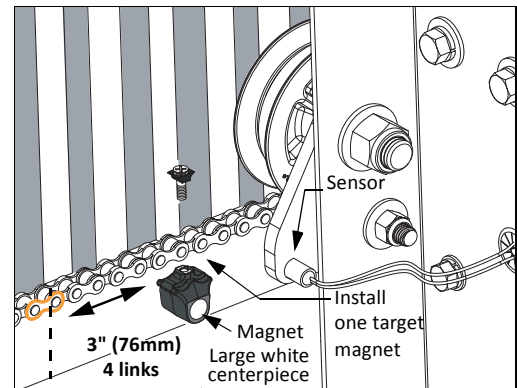

Figure 1-18.
5. Fasten the target magnet to the chain link as shown in Figure 1-18. Make sure the large white centerpiece is facing toward the operator. Insert the screw and tighten it securely.
If “ALERT 15 - NO TARGET” appears on the display after the target magnet has been installed and a full gate cycle completed (steps 6 & 7), it means that the target magnet has not been detected by the operator. Check chain alignment and make sure the target magnet is positioned properly and passes across the face of the sensor. See Figure 1-18. Repeat steps 6 and 7.
- If "LEARN OPEN" appears, then the target magnet was not detected. Check chain alignment and make sure the target magnet passes across the face of the sensor. See Figure 1-18. Repeat steps 6 - 8. If you are still having difficulty with the operator learning its limits, re-install the target magnet. See *Establishing the OPEN & CLOSE Limits* on page 1-12.